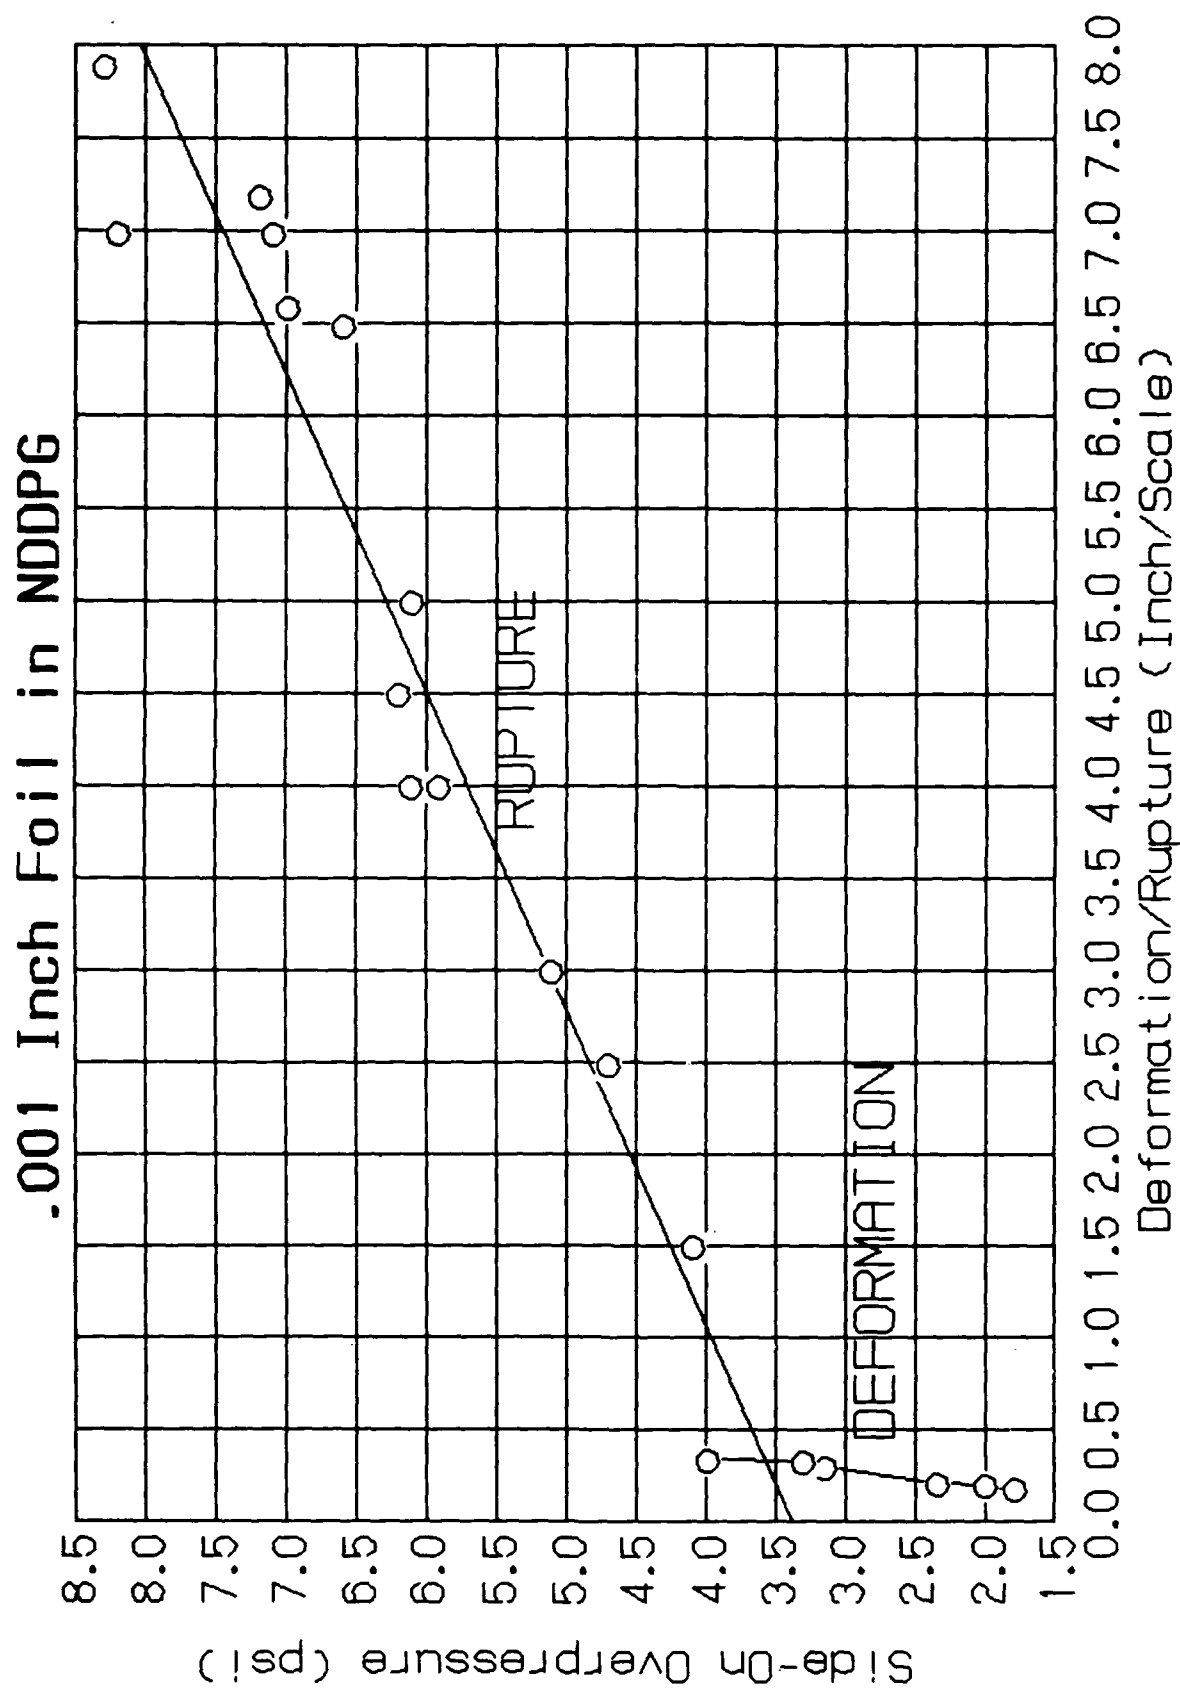

Figure 7. (U) CORRELATION CURVE C-1
- Figure 7. Correlation curve "C1": Side-on overpressure (PSI) correlated with deformation or rupture (inch/scale), using .001-in. foil 11
2.11.5 Calibration Curve "C1." Choose calibration curve "C1" to determine side-on overpressure for deformation or rupture with .001-in. foil. This curve correlates side-on overpressure with deformation or rupture for .001-in. foil, with the plane of the foil oriented normal to the direction of propagation of the initial shock (Figure 7).